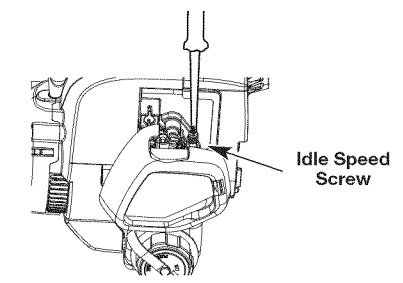

Fig. 17
The idle speed of the engine is adjustable. An idle adjustment screw is between the air filter cover and the engine starter housing (Fig. 17).
2. Release the throttle trigger and let the engine idle. If the engine stops, insert a small phillips screwdriver into the idle adjustment screw (Fig. 17). Turn the idle speed screw clockwise 1/8 of a turn at a time (as needed) until the engine idles smoothly.